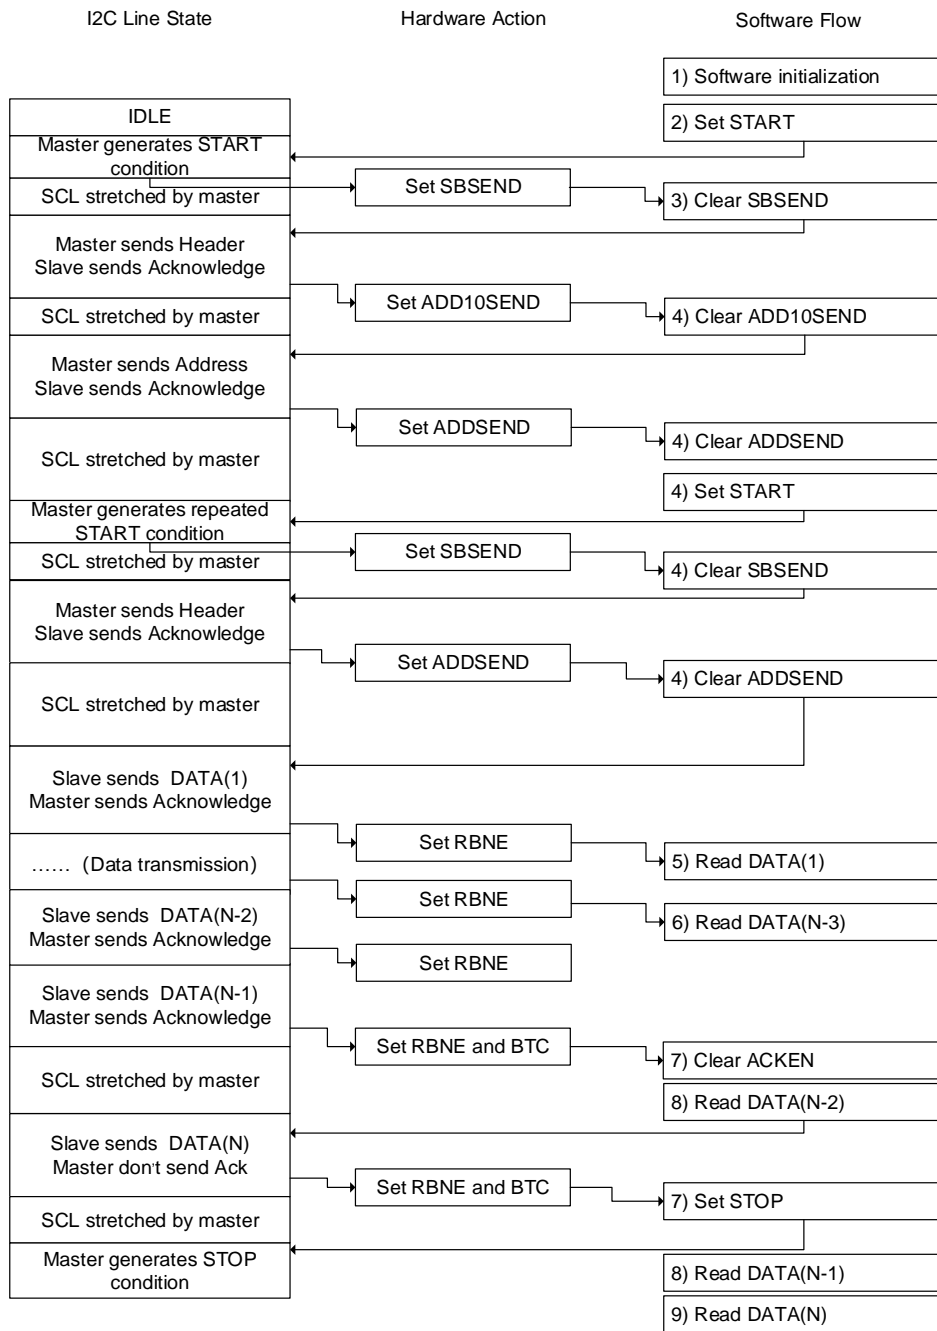

Figure 118 Programming model for master receiving mode using solution B(10-bit address mode)
6. Any time RBNE is set, software can read a byte from I2C\_DATA until the master receives N-3 bytes. As shown in Figure 118 Programming model for master receiving mode using solution B(10-bit address mode), the N-2 byte is not read out by software, so after the N-1 byte is received, both BTC and RBNE are asserted. The bus is stretched by master to prevent the reception of the last byte. Then software should clear ACKEN bit.